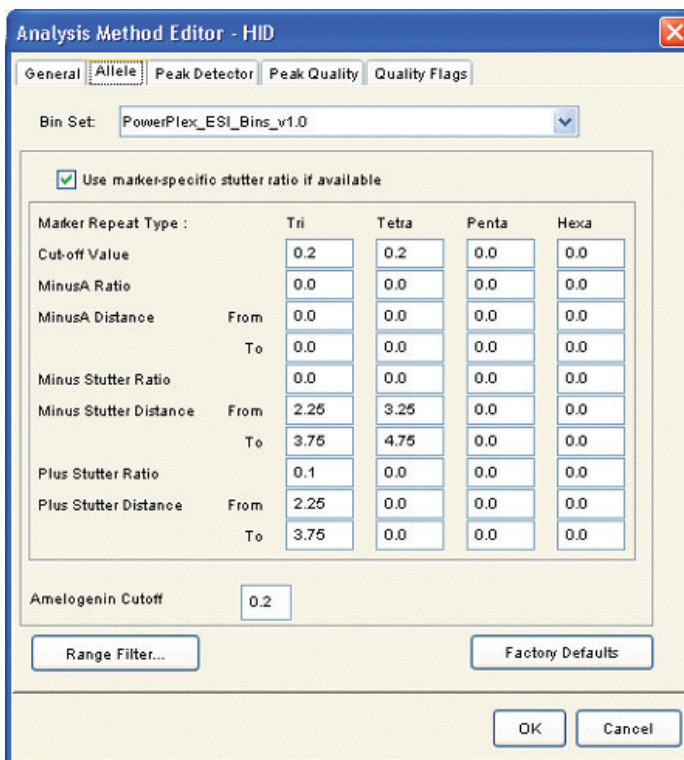

Figure 20. The GeneMapper® ID 'Allele' tab with settings for using a 20% peak filter.
6. Select the 'Allele' tab (Figure 20).
8. Ensure that the “Use marker-specific stutter ratio if available” box is checked. Doing this will assign locus-specific stutter filters and distances from the imported stutter file. Ensure that the appropriate global filter is applied to this analysis method. For example, for a 20% filter enter “0.20” for the Amelogenin Cutoff and Global Cutoff Value for Tri and Tetra repeats (Figure 20).
9. Enter the values shown in Figure 20 for proper filtering of peaks when using the PowerPlex® ESI 17 Pro System. For an explanation of the proper usage and effect of these settings, refer to the Applied Biosystems user bulletin titled “*Installation Procedures and New Features for GeneMapper ID Software 3.2*”.